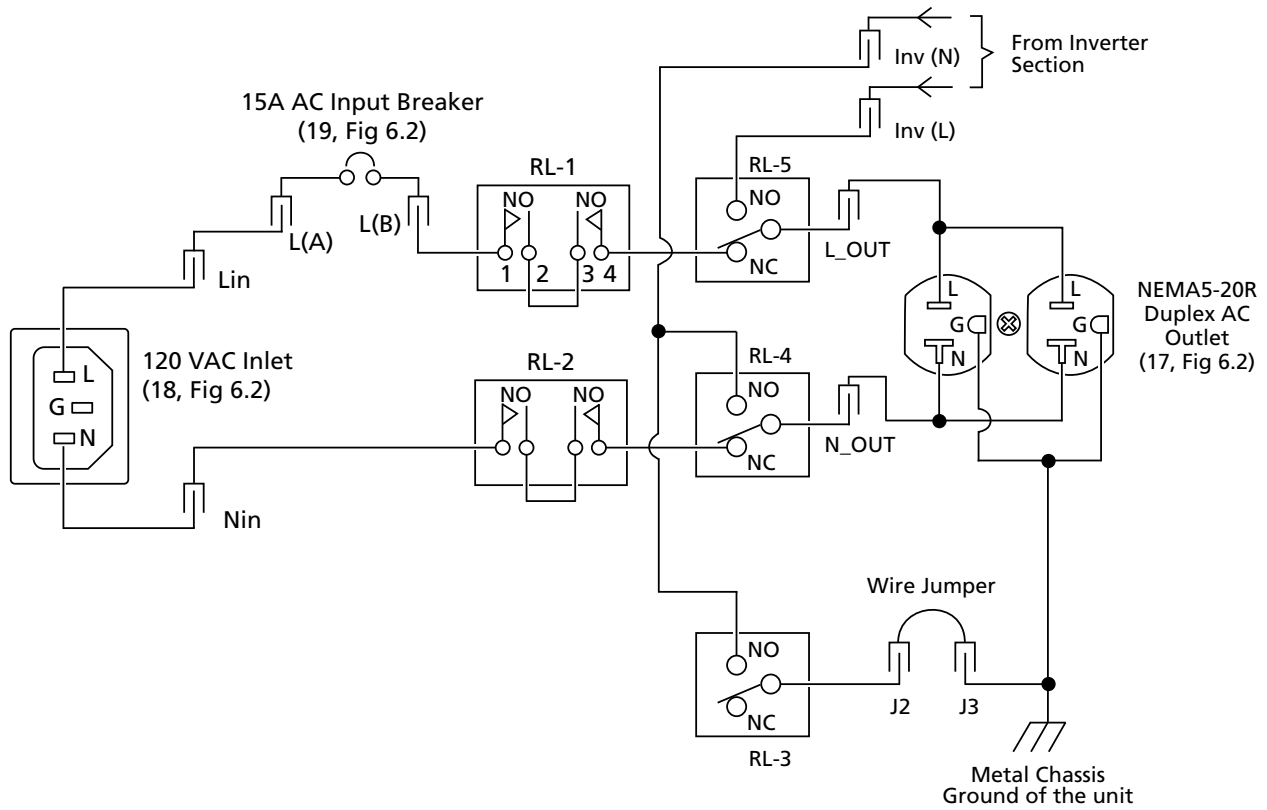

Fig. 5.1: Connection Diagram of Transfer & N-G Bond Switching Relays
When the Inverter Section is turned OFF but AC GRID input is still available, AC GRID input voltage will be bypassed to the load through the closed contacts of the energized Relays RL-1 and RL-2 and the Normally Closed (NC) contacts of the de-energized Relays RL-4 and RL-5(see Fig. 5.1). Relays RL-1 and RL-2 are energized by +12VDC generated by a small Switch Mode Power Supply (SMPS) that is powered from the AC GRID input and NOT from the batteries. Hence, in this condition, there will be no current draw from the batteries.
In this unit, set of Transfer Relays are used to (i) switch the AC load between the AC GRID and the Inverter (Section 5.4.1) and (ii) to switch Neutral to Chassis Ground bonding i.e. bond the Output Neutral to the Chassis Ground in Inverter Mode and unbind when in Bypass Mode (Section 5.4.3). Connection diagram of these relays is shown in Fig 5.1 below:
LEGEND FOR FIG 5.1
LEGEND FOR FIG 5.1 (Continued)
Refer to Fig 5.1.
Refer to connections of Relay RL-3 in Fig 5.1.
Permanent isolation of Output Neutral from metal Chassis Ground: In certain applications, it may be necessary to isolate the Output Neutral from the metal chassis ground permanently. For this requirement, remove the internal Wire Jumper connecting Terminals J2 and J3 (Fig 5.1) [will require removal of top cover of the unit to access this Wire Jumper].